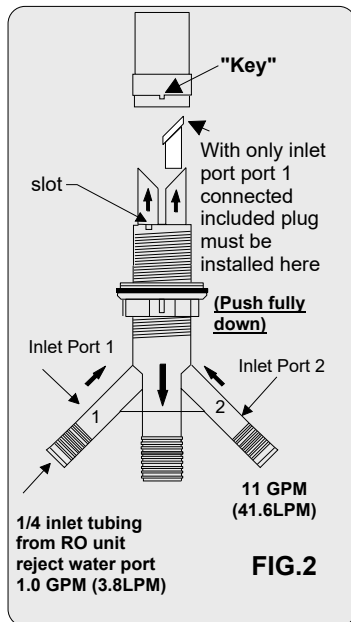

FIG.2
Dishwasher air gaps may become clogged with leftover food debris escaping the dishwasher filtering mechanism. The AG200-005 is easy to clean in the event of a clog. To clear a blockage, remove the decorative cover cap and unscrew the top nut. Remove the top housing, sliding it straight up and then remove any trapped food particles. After cleaning, carefully replace the top housing. Take care to align the key on the top housing with A slot in the air gap's body (see Fig.2). Install the top nut before replacing the Cover cap.
5. If a port plug is required, then remove the top housing sliding it straight up. After the plug is inserted, place the top housing back by pushing down and carefully rotating it until the housing key engages with the slot keyway in the threaded air gap body. (See Fig. 2).